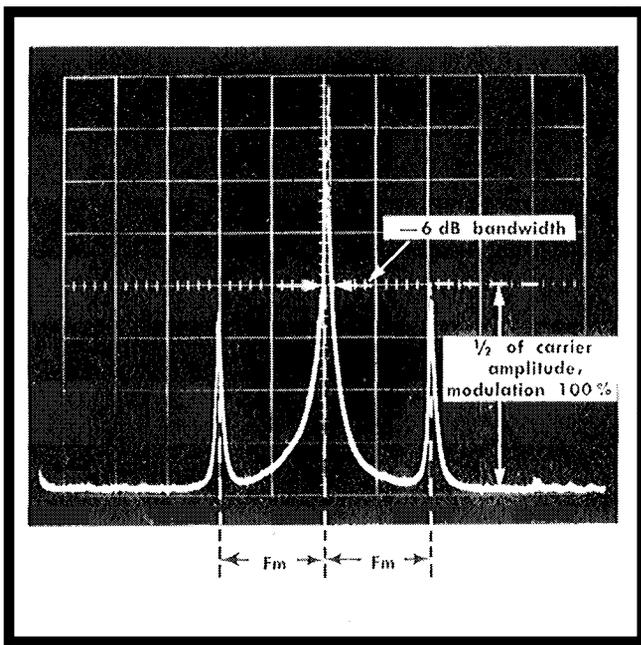

Fig. 2-18. Spectrum of an amplitude modulated signal. Sideband amplitude is  $\frac{1}{2}$  the percentage of modulation. This spectrum shows 100% modulation.
When a single frequency (CW) signal is amplitude-modulated by a single frequency, two additional frequencies will be generated; the carrier plus the two side bands. See Fig. 2-18. The amplitude of either sideband with respect to the carrier voltage is  $\frac{1}{2}$  the percentage of modulation. The frequency difference between the carrier and either sideband equals the modulating frequency.